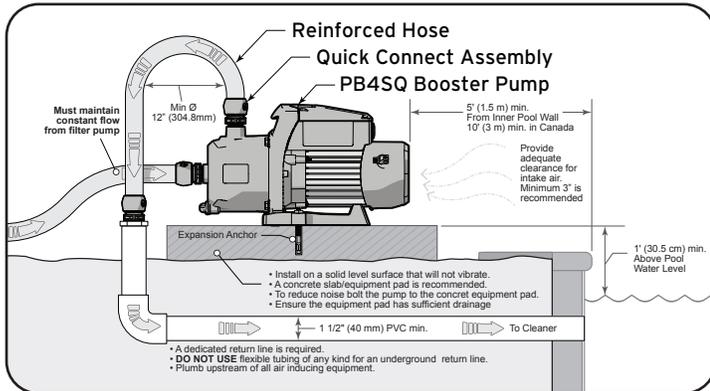

Figure 3. Location Requirements
- The pump along with all other circulation equipment must be installed at least 5' (1.5 m) from the inner pool edge. See Figure 3.
- The pump must be placed on a solid foundation that will not vibrate. See Figure 3.
- Secure the pump by bolting it to the equipment pad. This will also have the added benefit of helping to reduce vibration noise. See Figure 3.
- Return line should be rigid PVC at 1 1/2" (40 mm) Minimum. See Fig. 3
- Install the booster pump within 1' (30.5 cm) of the pool surface. See Fig. 3
2. Ensure that the pump is installed and firmly attached to a solid foundation. See Figure 3.